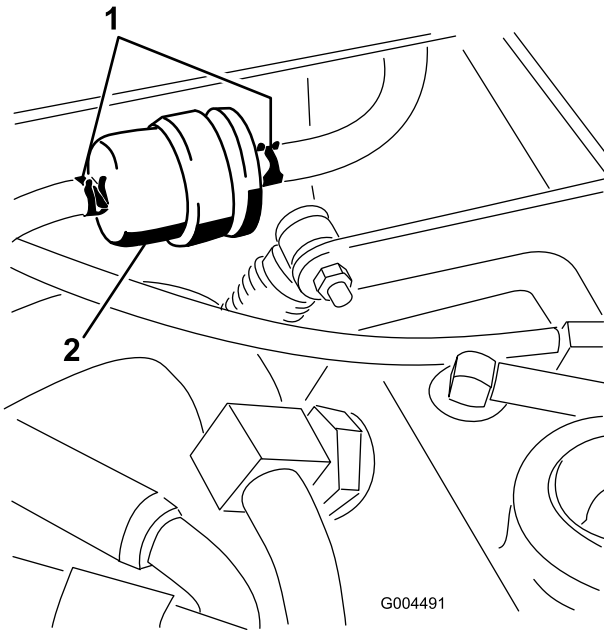

Figure 46
Replace the fuel pre-filter (Figure 46), located between the fuel tank and fuel pump after every 400 operating hours or yearly, whichever occurs first.
1. Clamp both fuel lines that connect to the pre-filter so fuel cannot drain when the lines are removed (Figure 46).